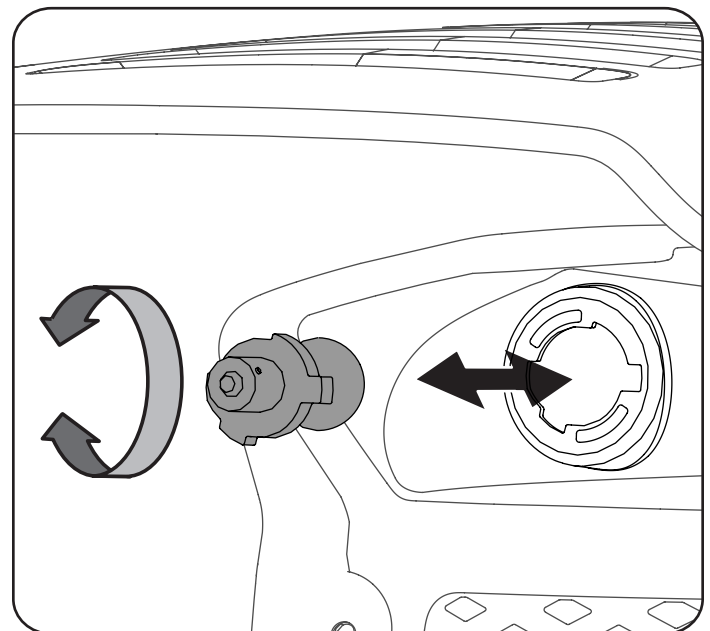

Figure 7
3. Rotate the socket assembly approximately a 1/4-turn to align the socket tab with the reflector housing notch; then withdraw the bulb and socket assembly from the reflector housing. See Figure 7.
5. Align a locking post of the bulb base with the notch in the socket, then push the bulb inward and turn clockwise to lock. See Figure 7.